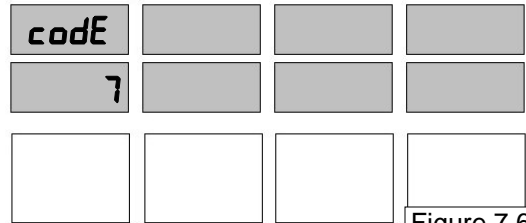

Figure 7.6
8. To turn set it for the Mixer option, press the 2 button and the main display now appears like Figure 7.6 (on next page).